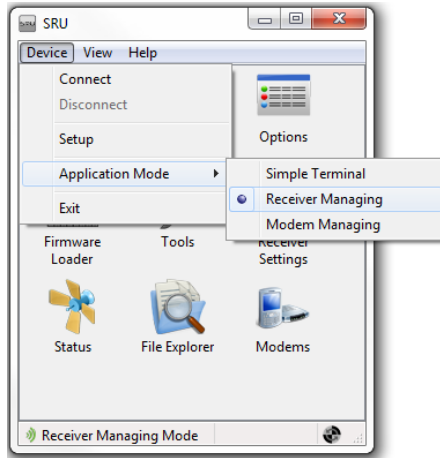

Figure 2-2. Sokkia Receiver Utility (SRU) Dialog Box
4. Click **Device** ▶ **Application Mode** ▶ **Receiver Managing** (Figure 2-2 on page 2-4).